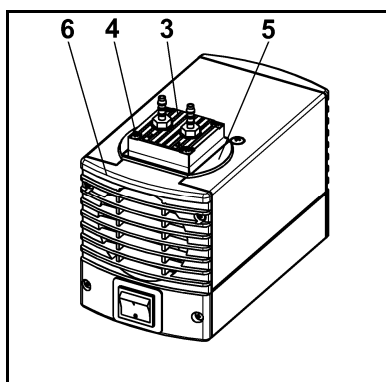
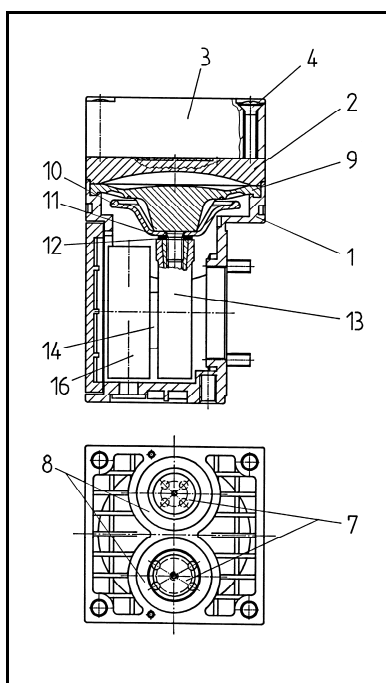

Fig. 5: Removing pump head
Fig. 6: Pump head
1. Mark the position of head plate (Fig. 5/3), cover (5) and cover plate (6) by a drawing line with a pencil. This helps to avoid incorrect assembly later.
2. Undo the 4 screws (4) in the head plate (3) and lift the head plate together with cover (5) off the pump housing.
3. Mark the position of intermediate plate (fig. 6/2) and housing (1) relative to each other by a drawing line with a pencil.
4. Lift intermediate plate (2) off the housing (1).
1. Remove the valve plates (fig. 6/7) and sealing rings (8) from the intermediate plate (2) (sealing rings could cling to the head plate).
2. Check that the valve seats, the head plate (3) and intermediate plate (2) are clean. If scratches or distortion are evident on these parts they should be replaced.
3. Lay the new valve plates (7) in the recesses in the intermediate plate (2). The valve plates for suction and pressure sides are identical, as are upper and lower sides of the valve plates.
4. Check that the valve plates (7) are not deformed by moving them gently sideways in their recesses.
5. Lay the new sealing rings (8) on the intermediate plate (2).
1. Place the intermediate plate (2), with valve plates (7) and sealing rings (8) on the housing, in the position indicated by the drawing line.
2. Place the head plate (3) with cover (fig. 5/5) on the housing (fig. 6/1), in the position indicated by the drawing line.
3. Check that the head plate (3) is centred by moving it gently sideways.
4. Tighten the screws (4), evenly and diagonally, first gently, then firmly.